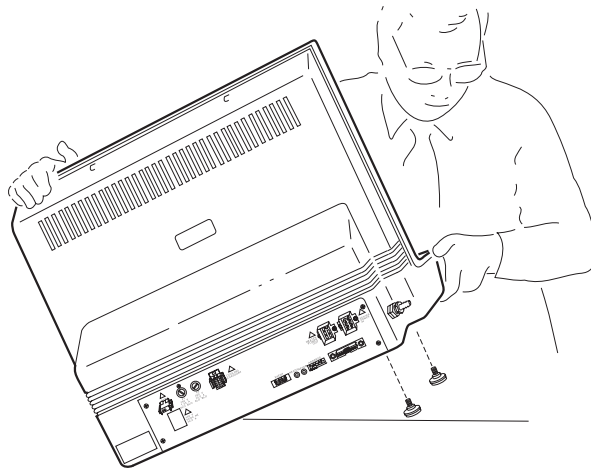

Figure 2.3 Installing the Mounting Feet
9. Have your assistant lift one side of the unit while you install two of the mounting feet (see Figure 2.3). Rotate the unit and install the two remaining mounting feet in the same manner.